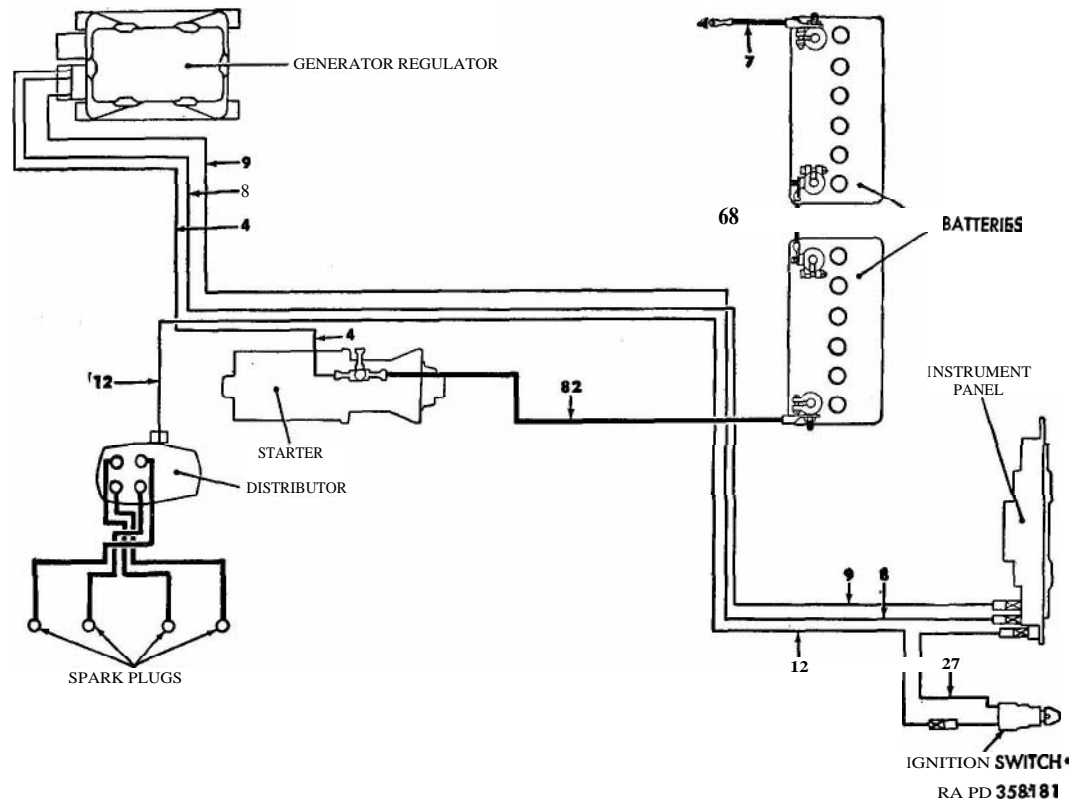

Figure 75. Ignition system components and cables identification (M38A1).
*a. Description.* The ignition system consists of the batteries, ignition switch, distributor with coil assembly, spark plugs, and circuit cables. The batteries are discussed in paragraph 162 and the ignition switch in paragraph 181. The distributor with coil assembly consists of the distributor, two capacitors, and ignition coil, in a single unit mounted on the right side of the engine block and driven from the oil pump. The primary, or low voltage circuit includes the batteries, ignition switch, breaker points, primary capacitor, breaker point capacitor, and the primary windings of the ignition coil. The secondary, or high voltage circuit, consists of the secondary winding of the coil, distributor rotor, distributor cover, cap assembly, spark plug cable assemblies, and spark plugs. The entire ignition system is waterproofed and includes devices for suppressing radio interference as described in paragraph 280. Ignition system components and cables are identified in figures 75 and 76.